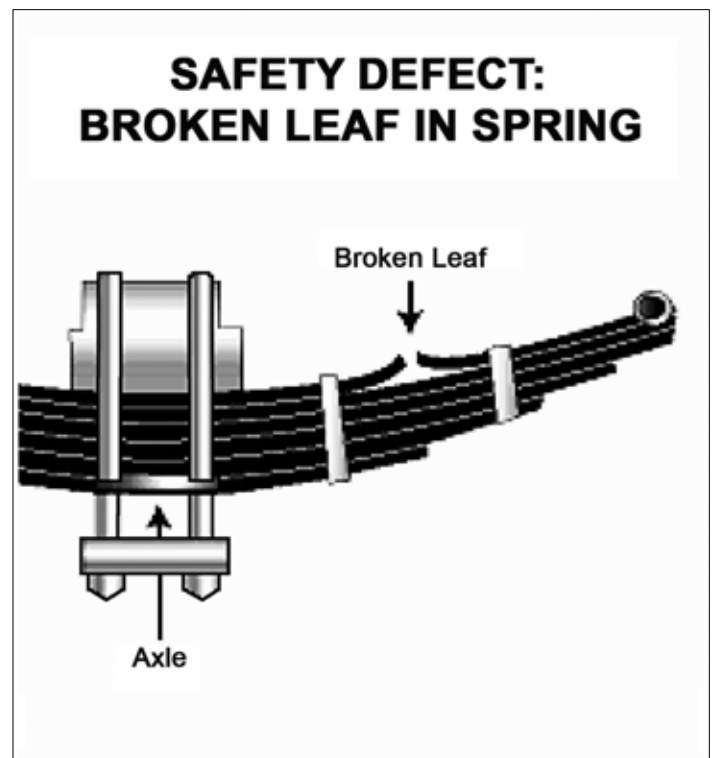

Figure 2.3
- Missing or broken leaves in any leaf spring. (Your vehicle may be placed out-of-service if $\frac{1}{4}$ or more of the leaves in any spring assembly are broken or if any leaf is missing or separated.) See Figure 2.3.